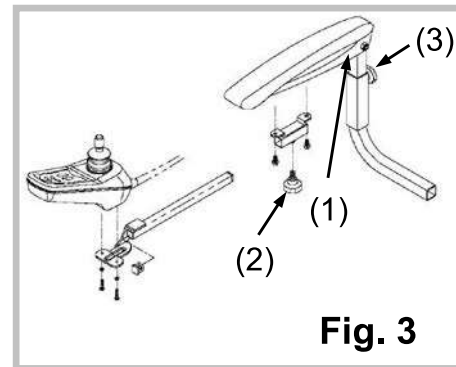

Fig. 3
ARM ADJUSTMENTS (Fig.3)
Loosen the hand knob [Fig.3 (3)] and remove the entire armrest assembly with the joystick attached. Place the armrest assembly on the desired side. Reset in position by re-tightening the hand knobs to complete joystick conversion.